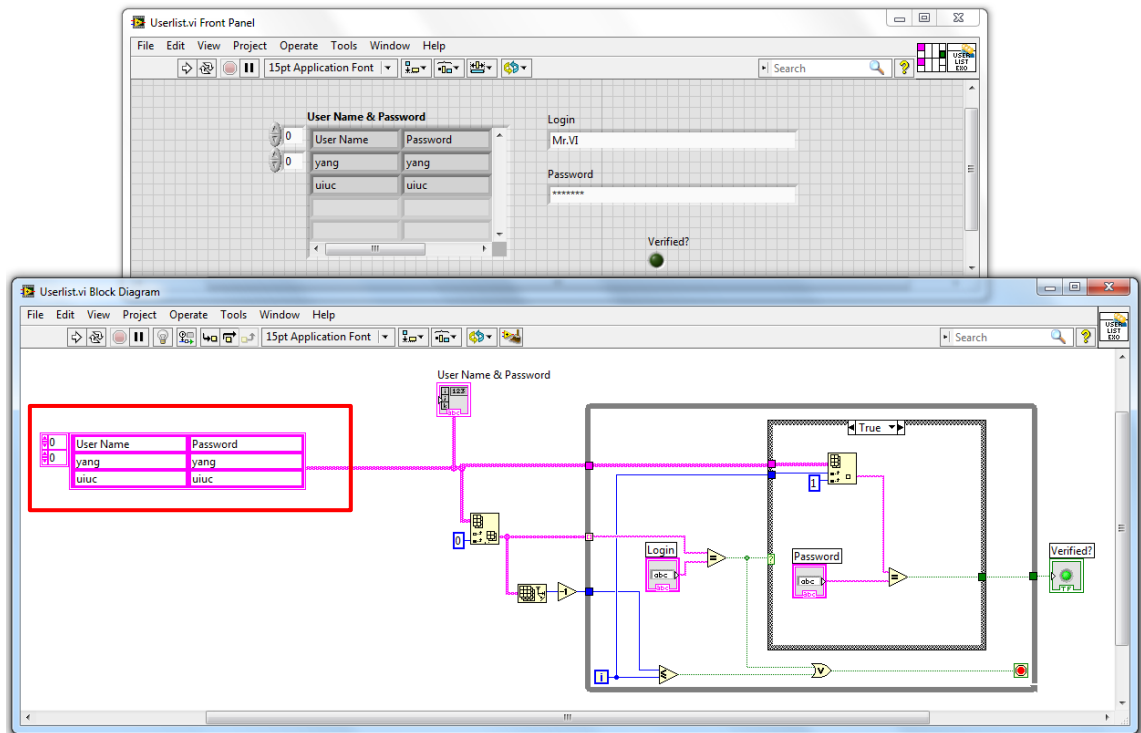

Fig.3. Front Panel (Above) and Block Diagram (Below) of Userlist.vi
- In the pink table, enclosed by red rectangle in Fig.3, you can add the user name and password as you want. After editing, save the file. Then you are done!